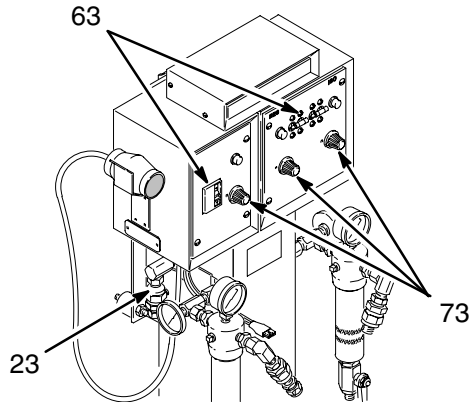

Fig. 19
Be sure the heater and heated hose circuit breakers (63) are shut off to reduce the risk of electric shock. See Fig. 19, page 18.
5. Start the heaters. See Fig. 19.
- a. Set all three Temp Set dials (73) to “cal” position, approximately 120°F (49°C).
- b. Turn the circuit breakers (63) to “I” for ON.